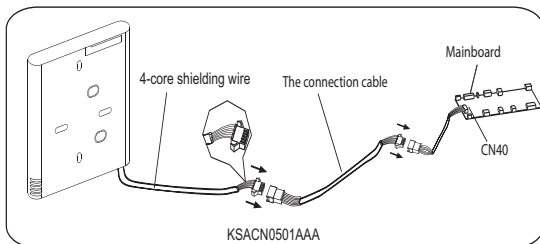

Fig. 4 – Installation of KSACN0501AAA
1. Connect the female joint of the wires group from the mainboard with the male joint of the connective wires group (see Fig. 4).
2. Connect the other side of the connective wires group with the male joint of the wires group leads from the wire controller (see Fig. 4).